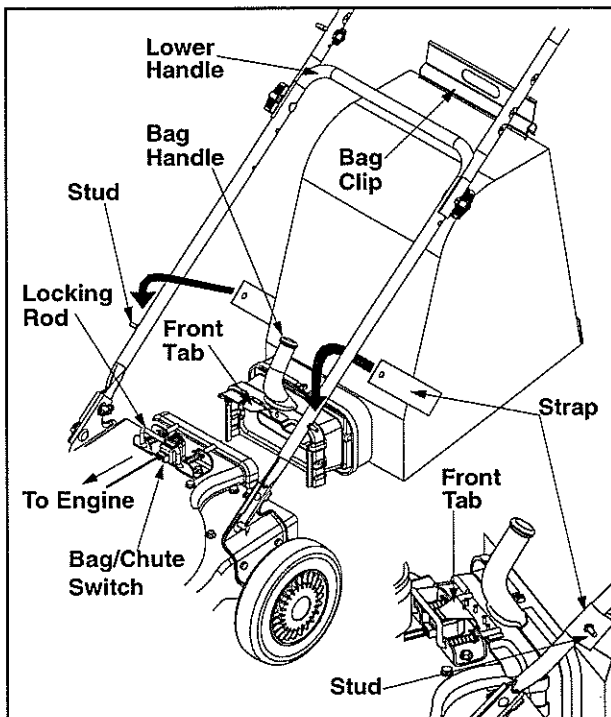

Figure 4
- Grasp bag handle with one hand and pull locking rod on mounting bracket with other hand toward engine. See Figure 4.
- Remove bag from over the rim of the discharge opening. Refer to Figure 4.